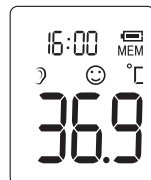

Figure 7
2. The thermometer will automatically memorize the last 10 temperature readings. Each memory also records the measurement date/time/mode icon. Each time the **ON BUTTON** is pressed, the screen displays past readings that correspond with a number 1-10. The number 1 reflects the most recent reading, while the number 10 reveals the oldest reading stored in memory. (See Figure 7)